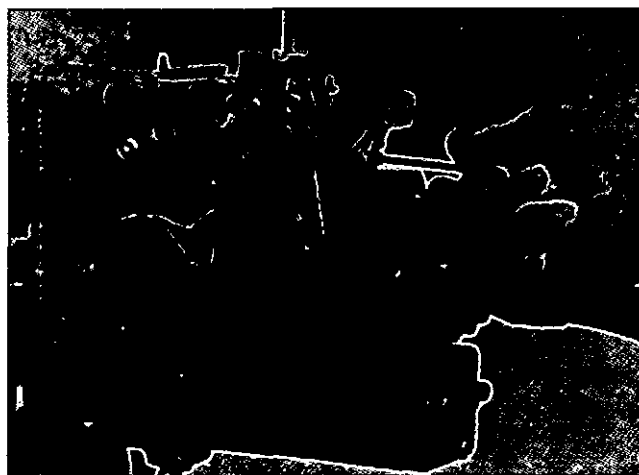

Fig. 10-41, (F5377). Set the PT (type H) AFC-VS idle speed.
4. Adjust the rear VS governor throttle screw to obtain the pressure in the calibration, Fig. 10-41.